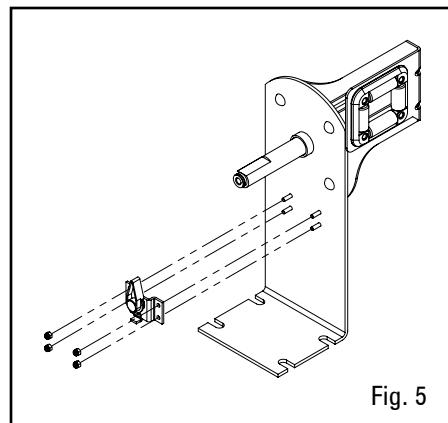

Fig. 5
2. Remove nuts that fasten latch pawl assembly with socket-head cap screws (fig. 5).